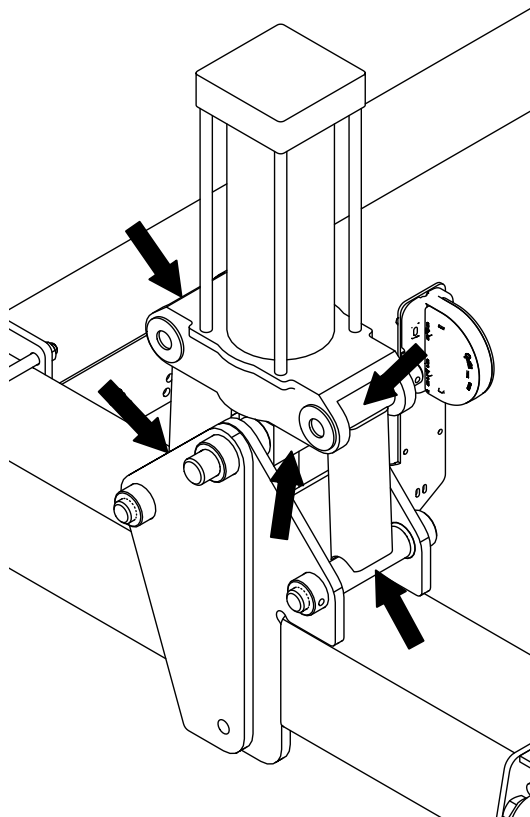

Figure 36 Folding Toolbar Components
1. Lubricate top and rear folding toolbar component zerks (Figure 36)